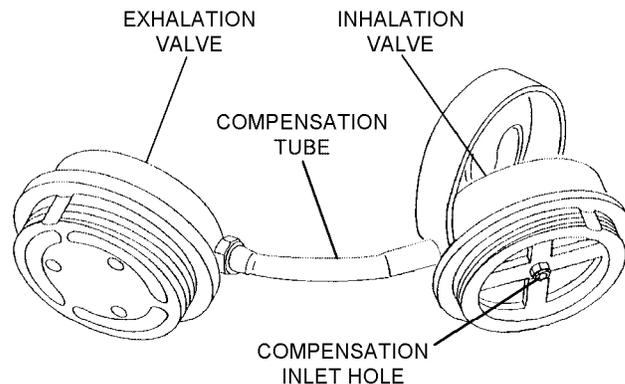

Figure 6-14. Cleaning Inhalation/Exhalation Valves
- c. With inhalation and exhalation valves still connected to the compensation tube, cover the compensation inlet hole of the inhalation valve (figure 6-14) tightly with finger and submerge valves, washers, and lockrings in isopropyl alcohol. Using gauze pad or other lint-free cloth, wipe washers, lockrings, and valve threads clean.